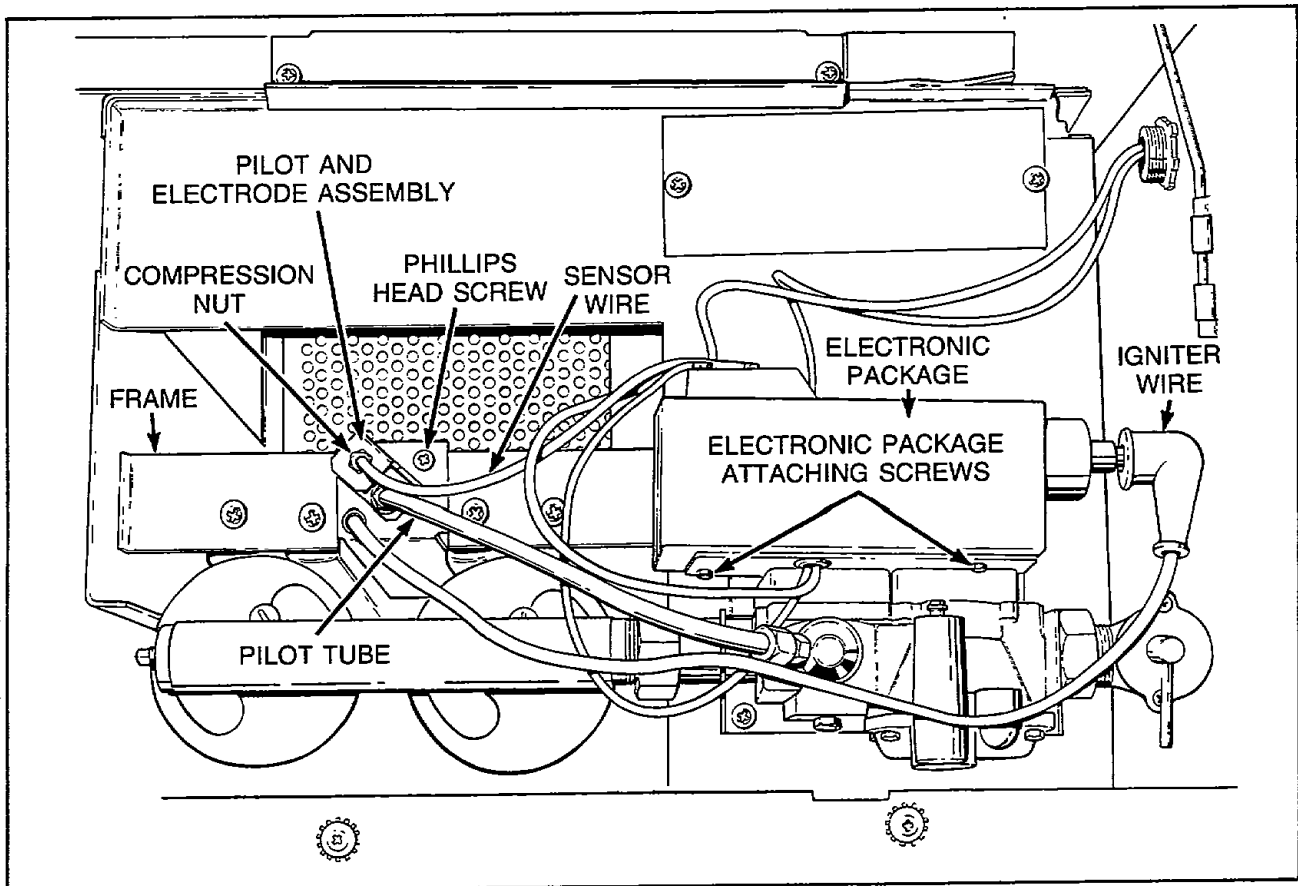
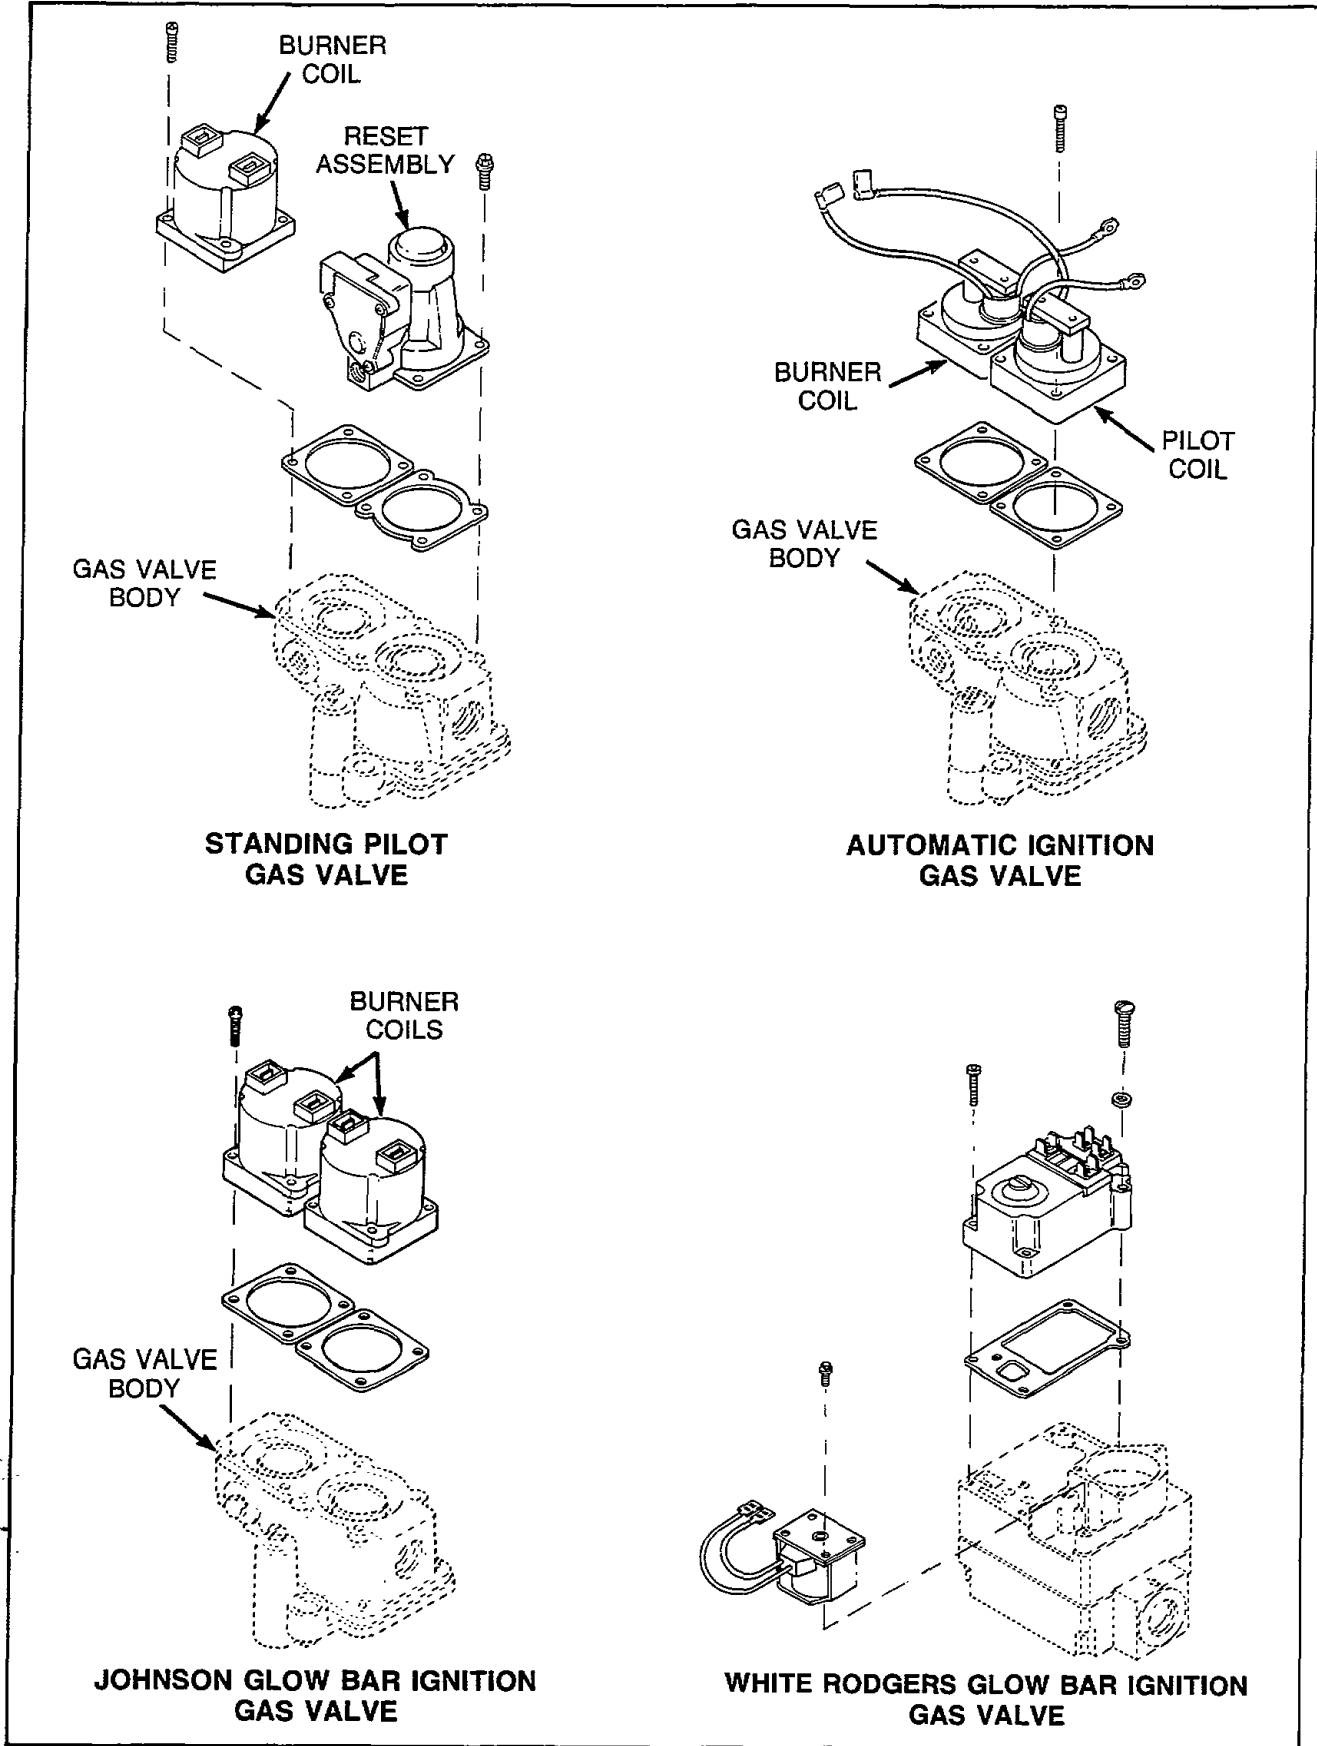

Figure 4
Figure 6
4. **PILOT AND ELECTRODE ASSEMBLY — Vertical or Horizontal System (Gas Models)** (Refer to Figure 4)
- (3) Close manual gas supply valve.
- (4) Disconnect all wires from gas valve and disconnect gas valve pipe unions.
- (5) Standing Pilot Models - Disconnect thermocouple from gas valve.
- (6) Standing Pilot or Automatic Ignition Models - Disconnect pilot tube from gas valve.
- (7) Automatic Ignition Models - Disconnect igniter wire from electronic package.
- (8) Automatic Ignition Models - Disconnect sensor wire from electronic package.
- (9) Remove Phillips head screws holding gas valve and bracket to stove assembly.
b. Electronic Package — Automatic Ignition Models (Refer to Figure 4)
- (1) Unlock and open access door.
- (2) Remove control panel assembly, paragraph 1.
- (3) Remove two screws holding electronic package to gas valve.
- (4) Disconnect all wires from gas valve.
- (5) Automatic Ignition Models - Remove two screws holding electronic package to gas valve, Figure 4.
- (6) Remove screws holding reset assembly or solenoid coil to gas valve body.
**NOTE:** Refer to Figure 6 for assembly sequence.